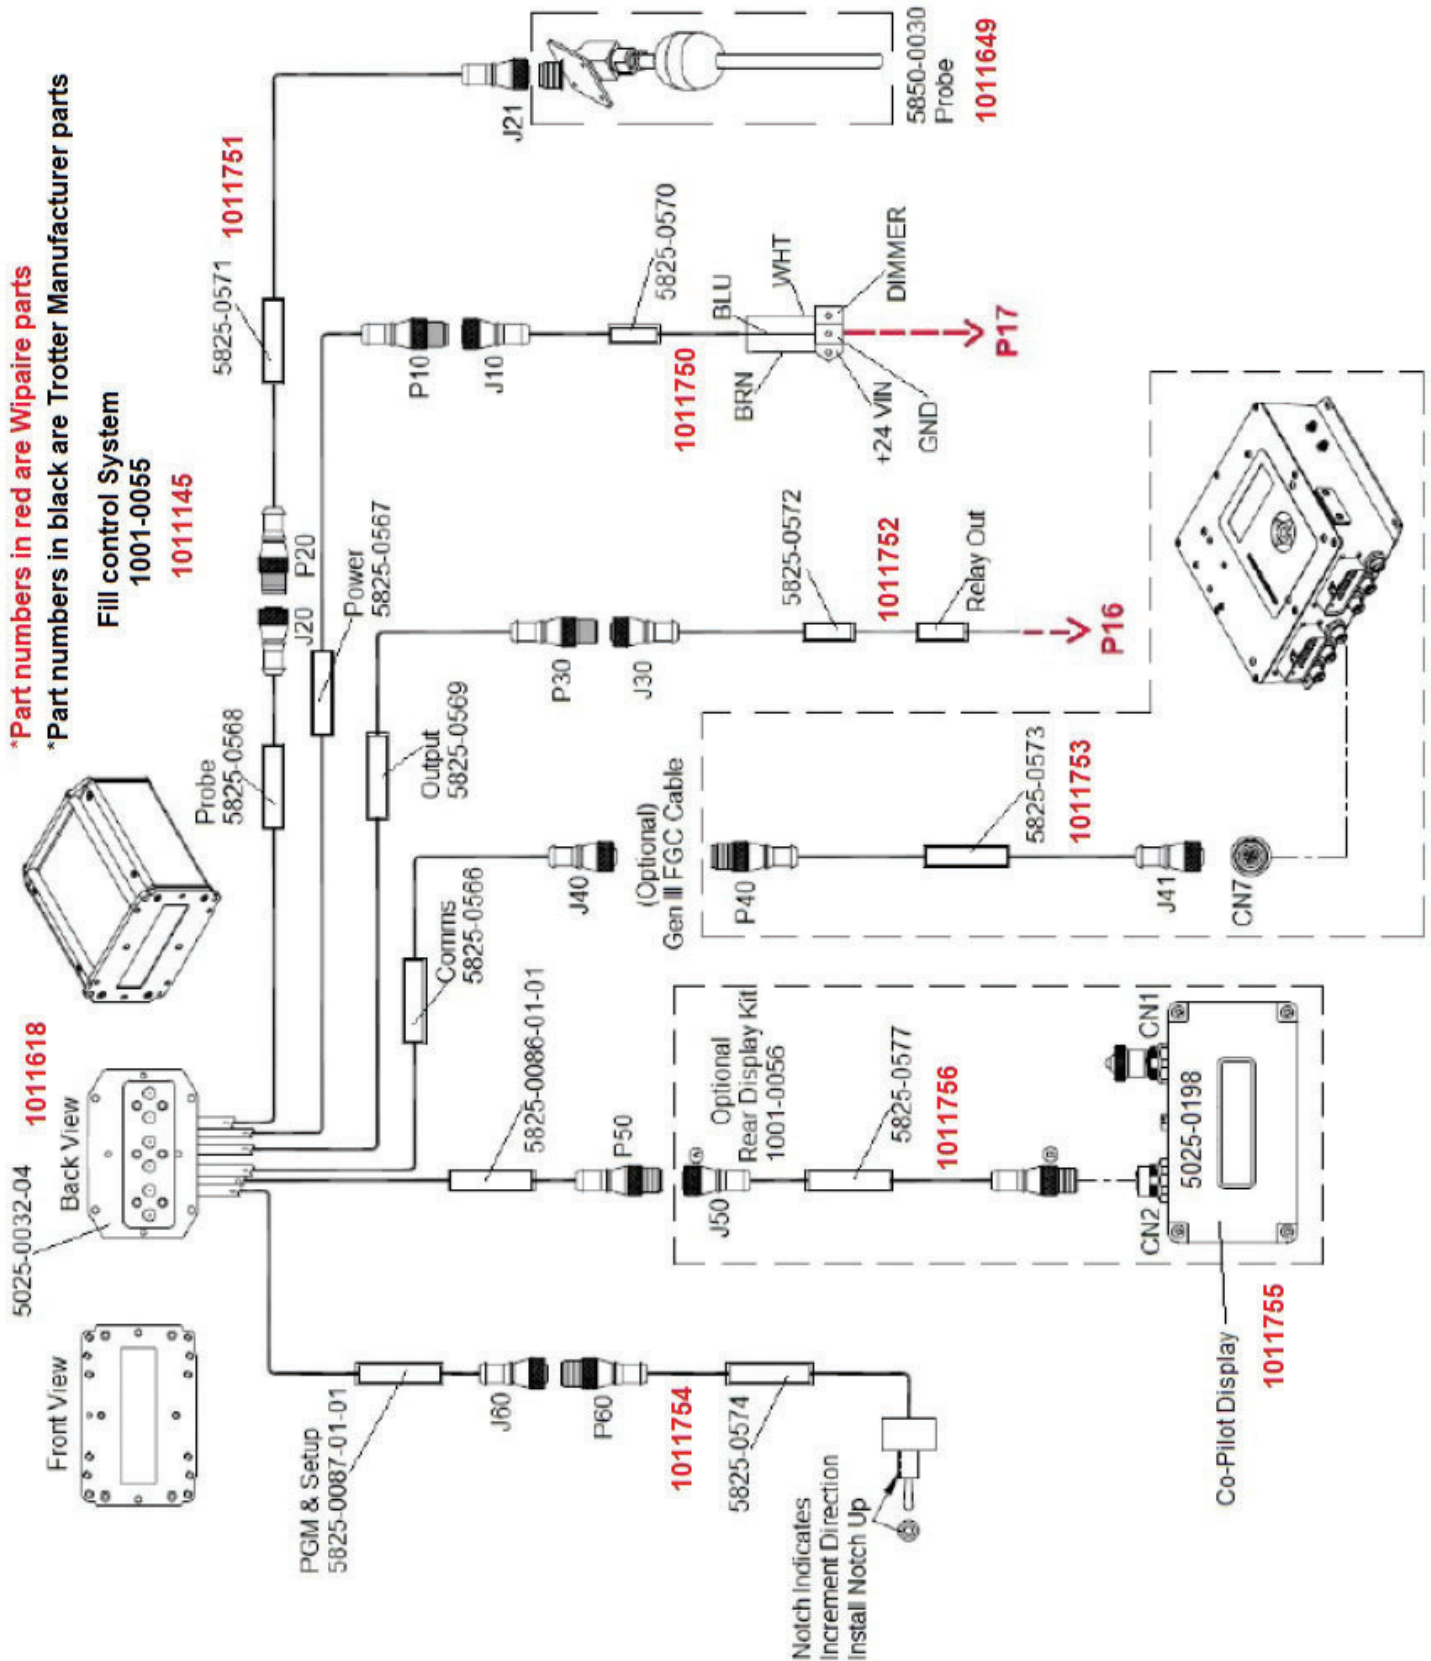
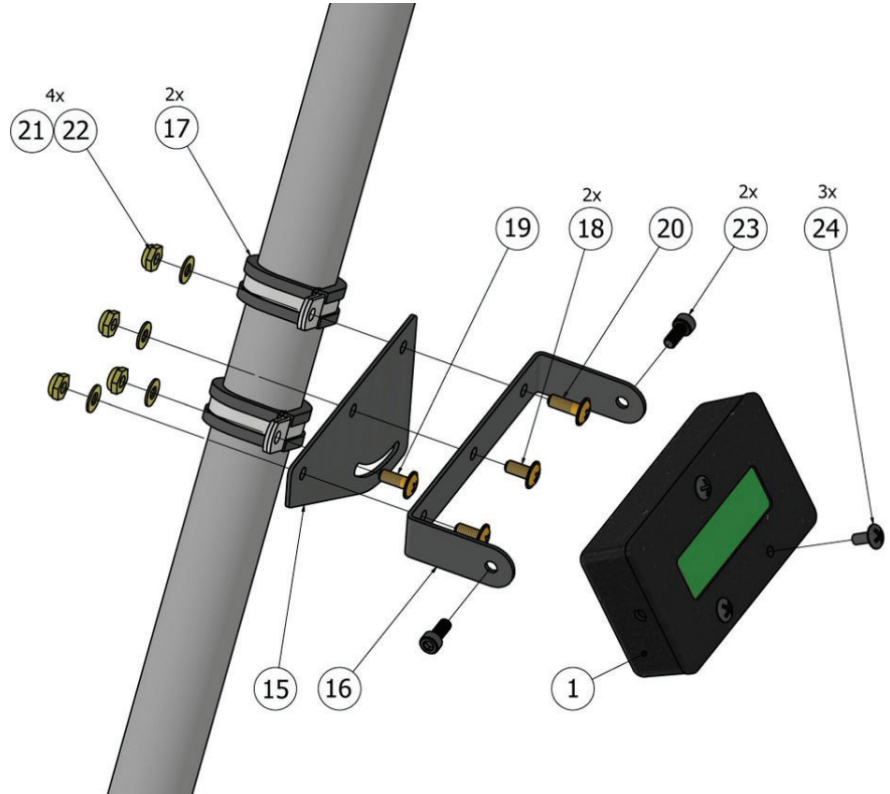

Figure 4 - New Fill System Schematic
Figure 5 - Optional mounting of co-pilot fill display
Note: Reference Figure 4 for steps 6-11:
11. If installing in a dual cockpit with a rear instrument panel the rear display kit is optional, see P/N 1011755 Copilot Fill Level Display and P/N 1011756 Wire Harness for Copilot Fill Level. in Figure 4. If mounting to existing panel is not feasible or desired, kit 1011750-02 provides for an alternate mounting option. See Figure 5. Use the socket head screws (item 23) and pan head screws (item 24) to fill their respective mount holes in the display regardless of mounting option.